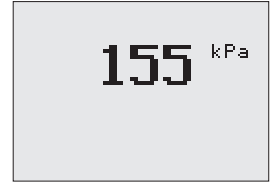

Figure 23: Pressure display on main screen
- Live pressure reading Metric or Imperial Units as shown in Figure 23.
- Output active (OV) when in alarm state enabling, for example, engine shut down to be connected.
2. After allowing the A/D value to stabilize giving a value of 236. The User held the **SET** softkey until the **A/D LO** Value updated (236 displayed on far right as in Figure 23).
4. After allowing the A/D value to stabilize at the deep value the A/D had a value of 894, as shown in Figure 27. The User held the **SET** softkey until the **A/D HI** Value updated (far right of screen, as shown in Figure 23).